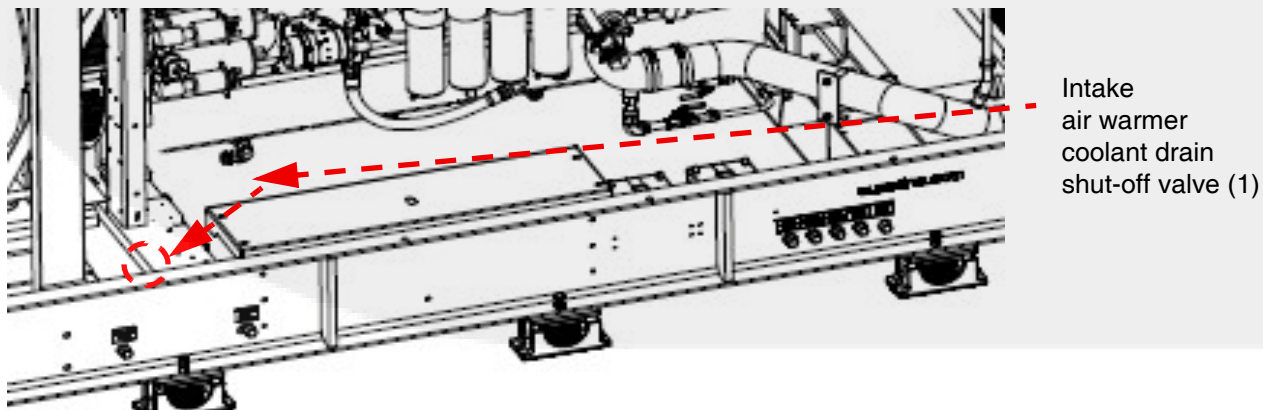

Figure 7-18 GenSet intake air warmer coolant drain shut-off valve (GenSet right side)
2. As shown in Figure 7-18, check that the intake air warmer drain shut-off valve is closed. Turn the tee handle so that it is perpendicular to the drain line. The intake air warmer shut-off valve is *directly behind* the intake air warmer drain (on the right side of the GenSet).